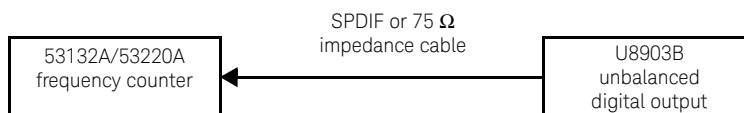

Figure 4-7 Keysight 53132A/53220A to U8903B unbalanced digital output for unbalanced input sampling rate accuracy verification
- 1 Connect 53132A/53220A Frequency Counter input channel 1 to the U8903B unbalanced digital output channel using the SPDIF or 75 Ω impedance cable as shown in **Figure 4-7**.